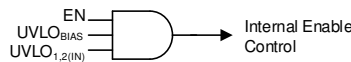

Figure 47. Simplified Turnon Control
Controlling when a single power supply turns on can be difficult in a power distribution network (PDN) because of the high power levels inherent in a PDN, and the variations between all of the supplies. The LDO turnon and turnoff time is set by the enable circuit (EN) and undervoltage lockout circuits ($UVLO_{1,2(IN)}$ and $UVLO_{BIAS}$), as shown in Figure 47 and Table 2.